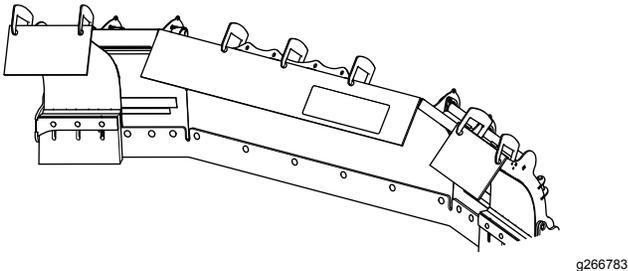

Figure 11
2. Clamp the long belting section to the top edge of the plow blade (Figure 11).
3. Clamp the short belting sections to the top edge of the plow wings (Figure 11).